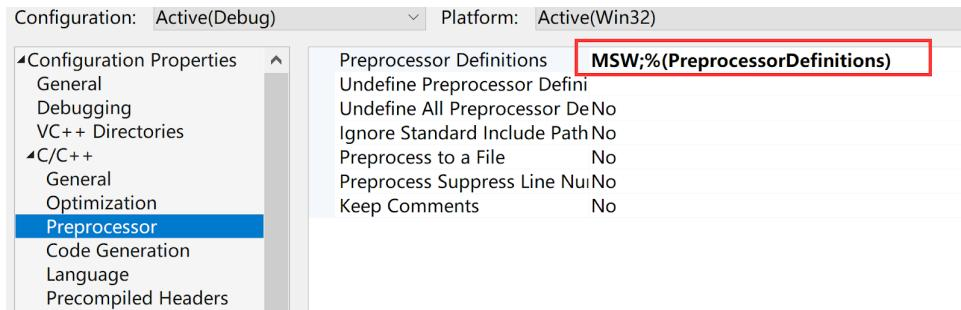

Figure 1.2: Add MSW to preprocessor definitions
- b.Add MSW to preprocessor definitions(shown as Figure 1.2):